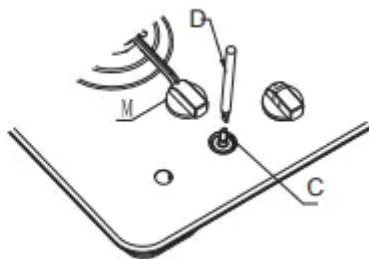

Fig 7
- The adjustment of the reduced rate position is as follows (fig. 7):